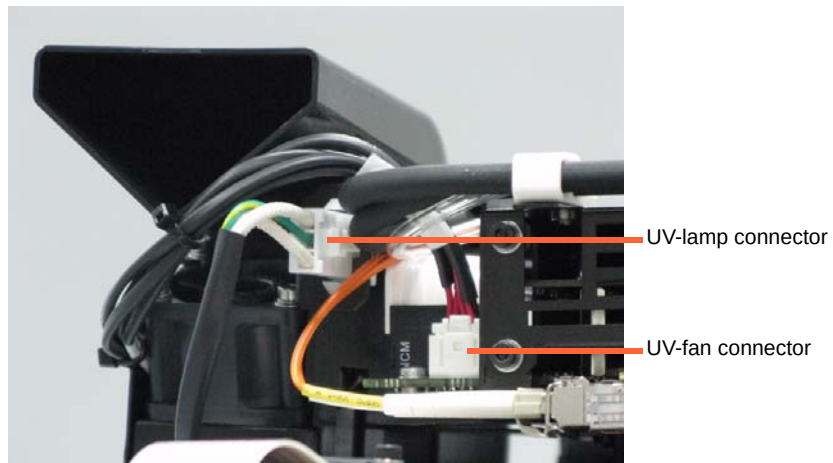

Figure 7-27: UV lamp/fan connections
6. Connect the UV lamp cable and the fan cable (see figure 7-27 on page 20).